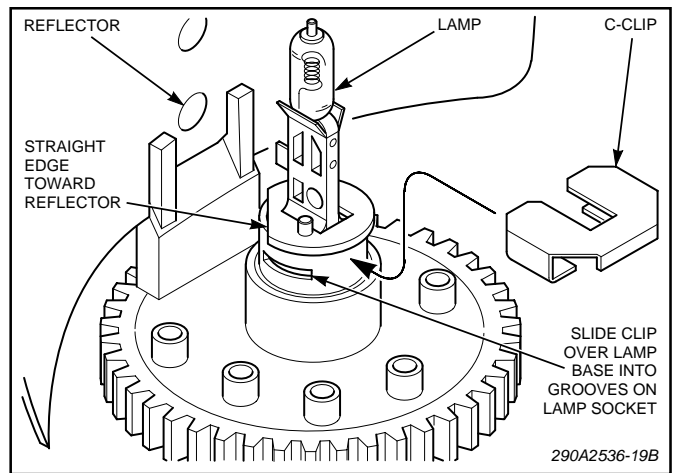

Figure 3.
3. See figure 3. Note the lamp's orientation and replace the lamp with the straight edge of the lamp's base toward the reflector.